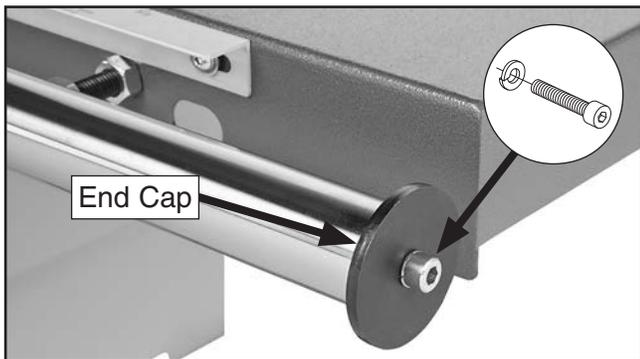

Figure 40. Rip fence rail end cap attached.
46. Attach the flat end cap to the other end of the rail with the M8-1.25 x 16 cap screw and 8mm lock washer, as shown in **Figure 40**.